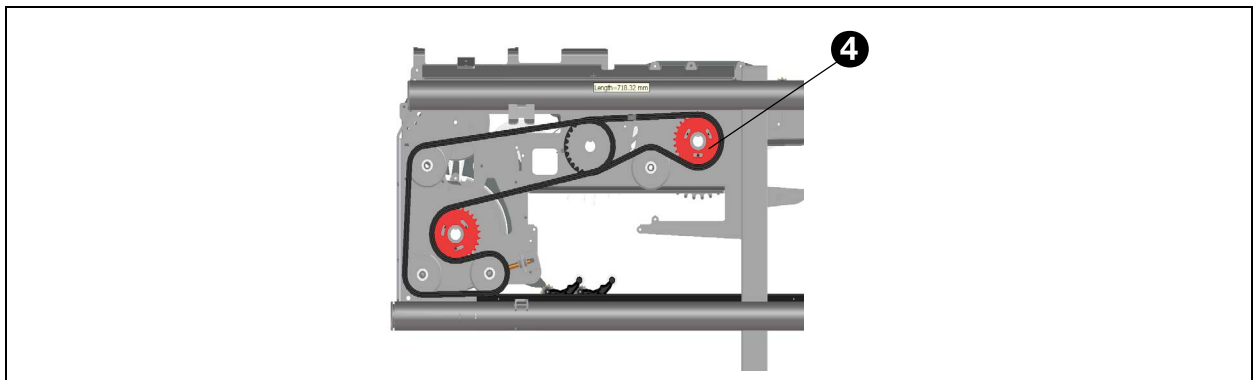

Fig. 56 - Drive of double rolls
4. Loosen the bolts of the chain-wheel (4). See fig. 56.